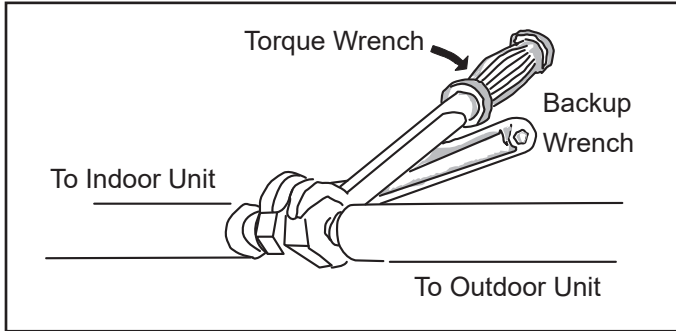

Figure 4. Tighten Flare Nut
7. Once snug, continue another half-turn on each nut which should create a leak-free joint. A torque wrench may be used to tighten flare nuts using Table 2 recommendations. See Figure 4. **Do not over-tighten a flared joint. Flared connections should always be accessible and must be insulated to prevent condensation.**